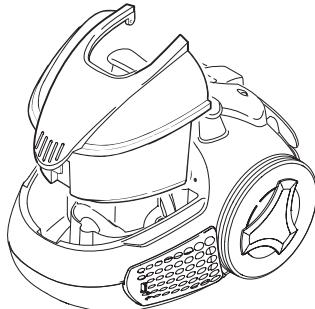

fig. 7
- Remove the dust collecting tank from its slot (fig. 7).